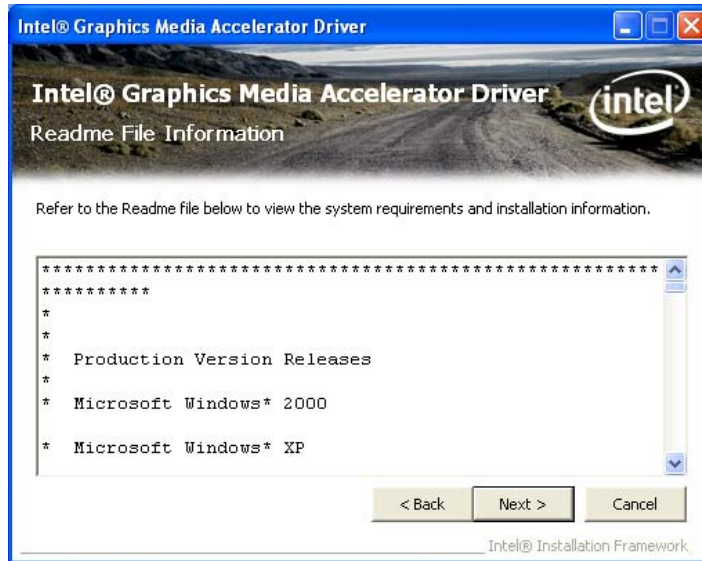

Figure 6-14: VGA Driver Read Me File
Step 11: The Read Me file in Figure 6-14 appears.